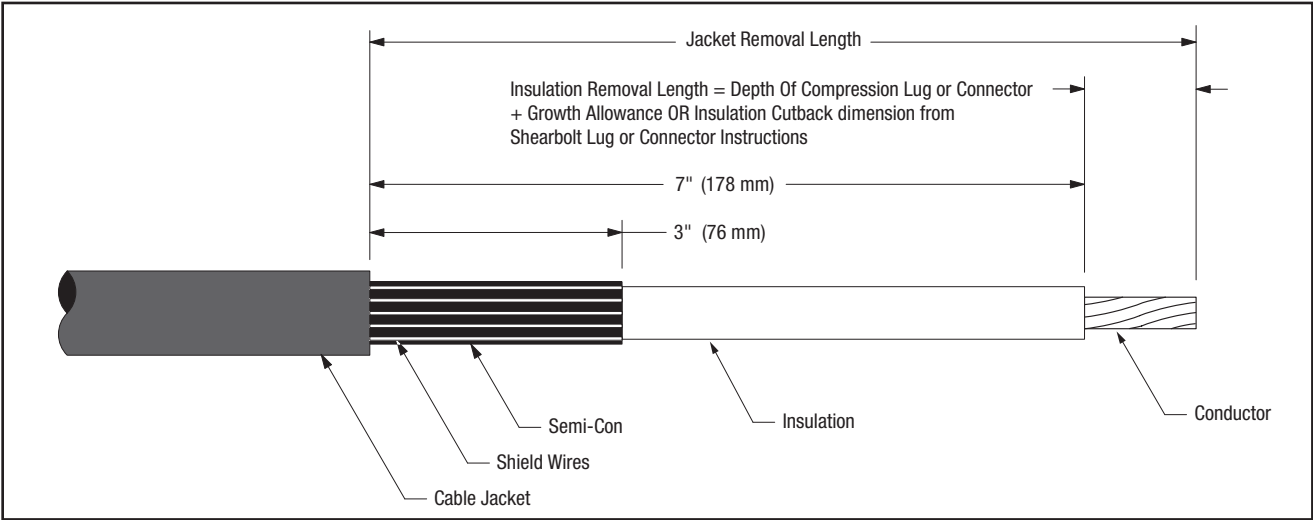
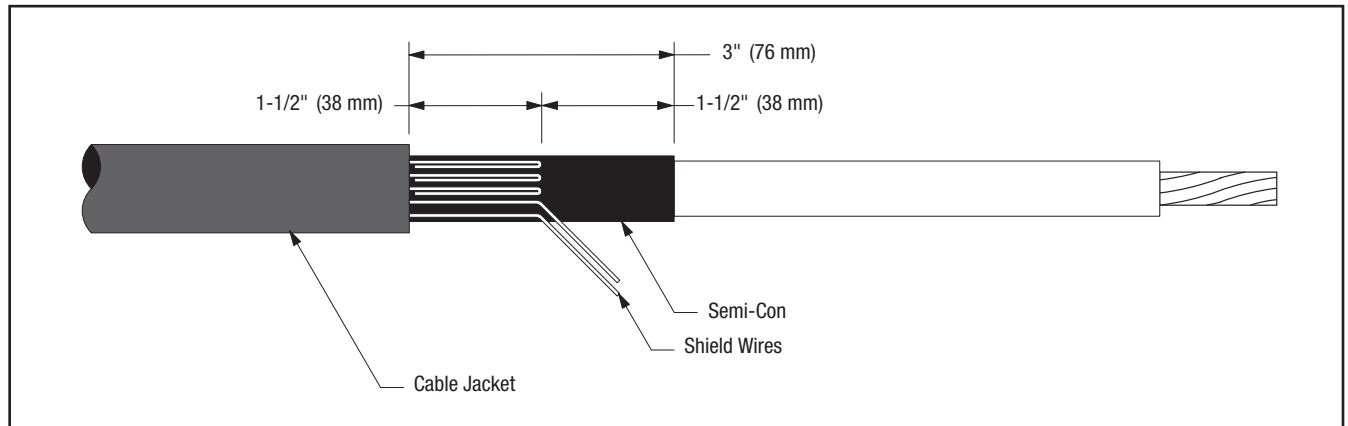

Figure 8
Figure 9
- 7.2 Prepare cable using dimensions shown in Figure 8 and Figure 9. **BE SURE TO ALLOW FOR DEPTH OF TERMINAL LUG OR CONNECTOR**
| Insulation Length                                                                                                                        | 7.0"                        | 178 mm                  | Value from Figure 8                                                                                                      |
| Insulation Length                                                                                                                                                                             | 7.0"                        | 178 mm                  | Value from Figure 8                                                                                                                                                                                                                                                 |
7.5 Bend leading 1-1/2" (38 mm) of exposed shield wires back upon themselves to jacket edge (Figure 9).